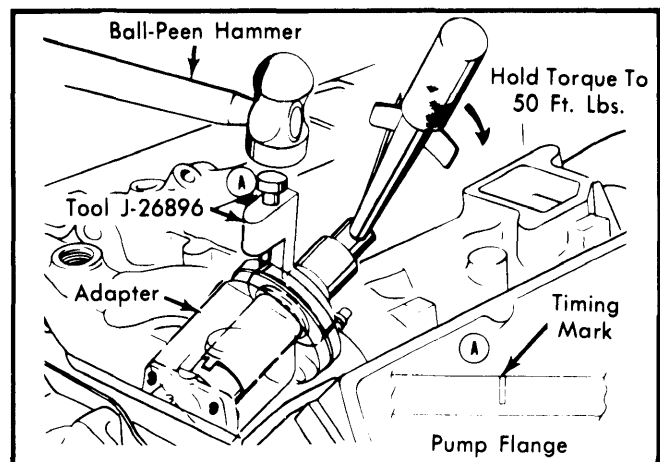

Fig. 17 Stamping Timing Mark on Adapter
- 8) While holding torque, stamp timing mark on injection pump adapter. See Fig. 17.